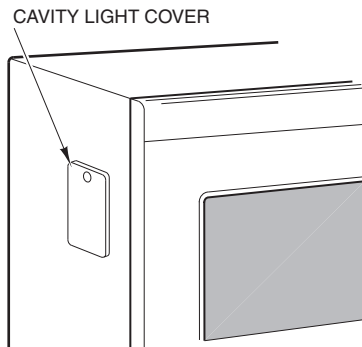

Fig. 7
- Unscrew the screw on the Cavity Light Cover located on the left side of the cabinet (Fig. 7).